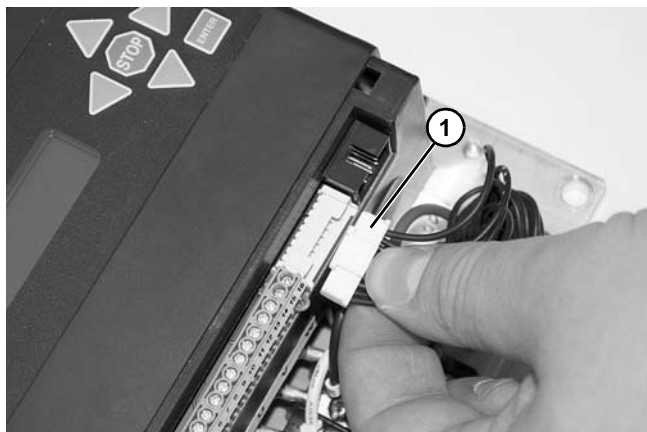

Figure 32
6. Unplug connector (Figure 32, item 1) from controller.